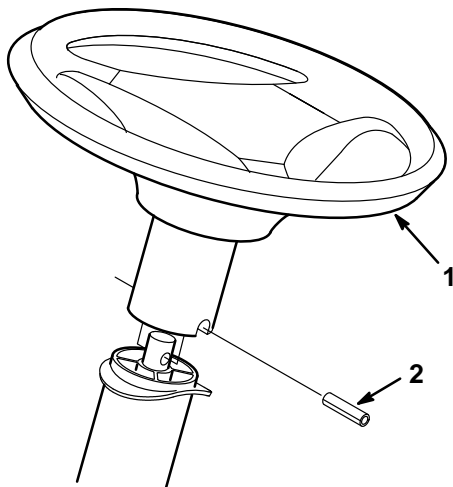

Figure 3
2. Slide the steering wheel over shaft. Line up the hole in the steering wheel with the hole in the shaft (Fig. 3). From the seat you should be able to read the brand logo on the steering wheel.
4. Using a hammer, drive the spirol pin in until it is flush with the outside of the steering wheel (Fig. 3).